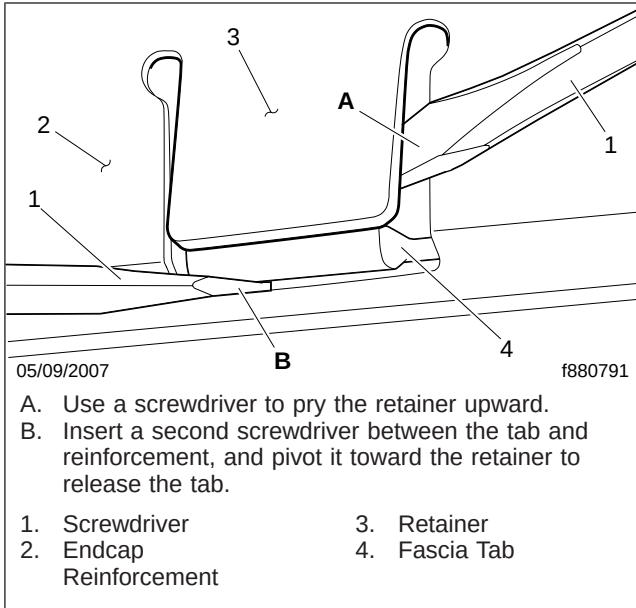

Fig. 2, Disengaging a Retainer
- 6.1 Insert a screwdriver behind a retainer, and a second screwdriver between the fascia tab and the body of the reinforcement. Carefully pry the retainer upward, and pivot the second screwdriver toward the retainer to release the tab. See Fig. 2.
7. Disengage the retainers that fasten the fascia to the reinforcement (see Fig. 2), and carefully separate the two pieces.